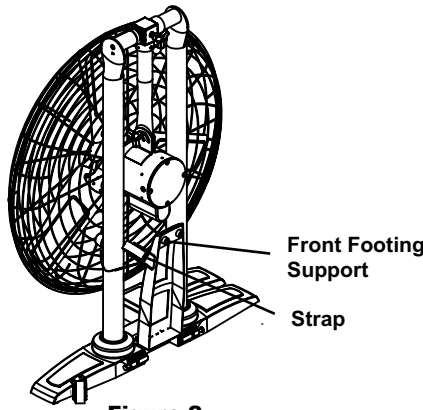

Figure 2
See Figures 2 to 9.
1. Unpack the fan unit from the shipping carton. Cut the strap holding the Front Footing Support during shipment. See Figure 2.
2. Reposition the front footing support on a flat, level surface. See Figure 2 and 3.